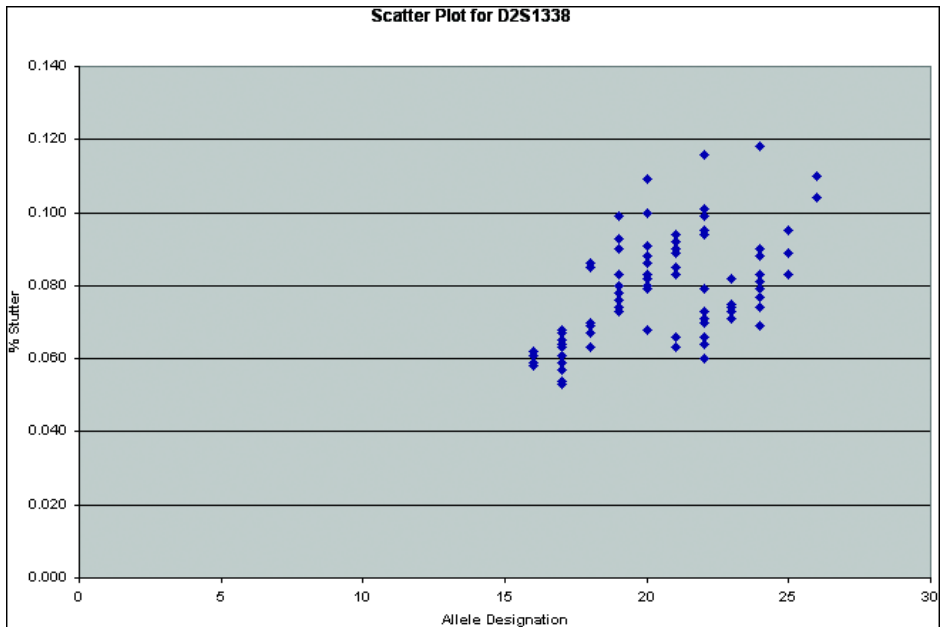

Figure 8-4 D2S1338 scatter plot
- For each AmpF ℓ STR SEfiler kit locus, the percent stutter generally increases with allele length, as shown in Figures 8-4 through 8-14 on pages 8-23 through 8-28.
- Refer to Figures 8-4 through 8-14 on pages 8-23 through 8-28. Smaller alleles display a lower level of stutter relative to the longer alleles within each locus.